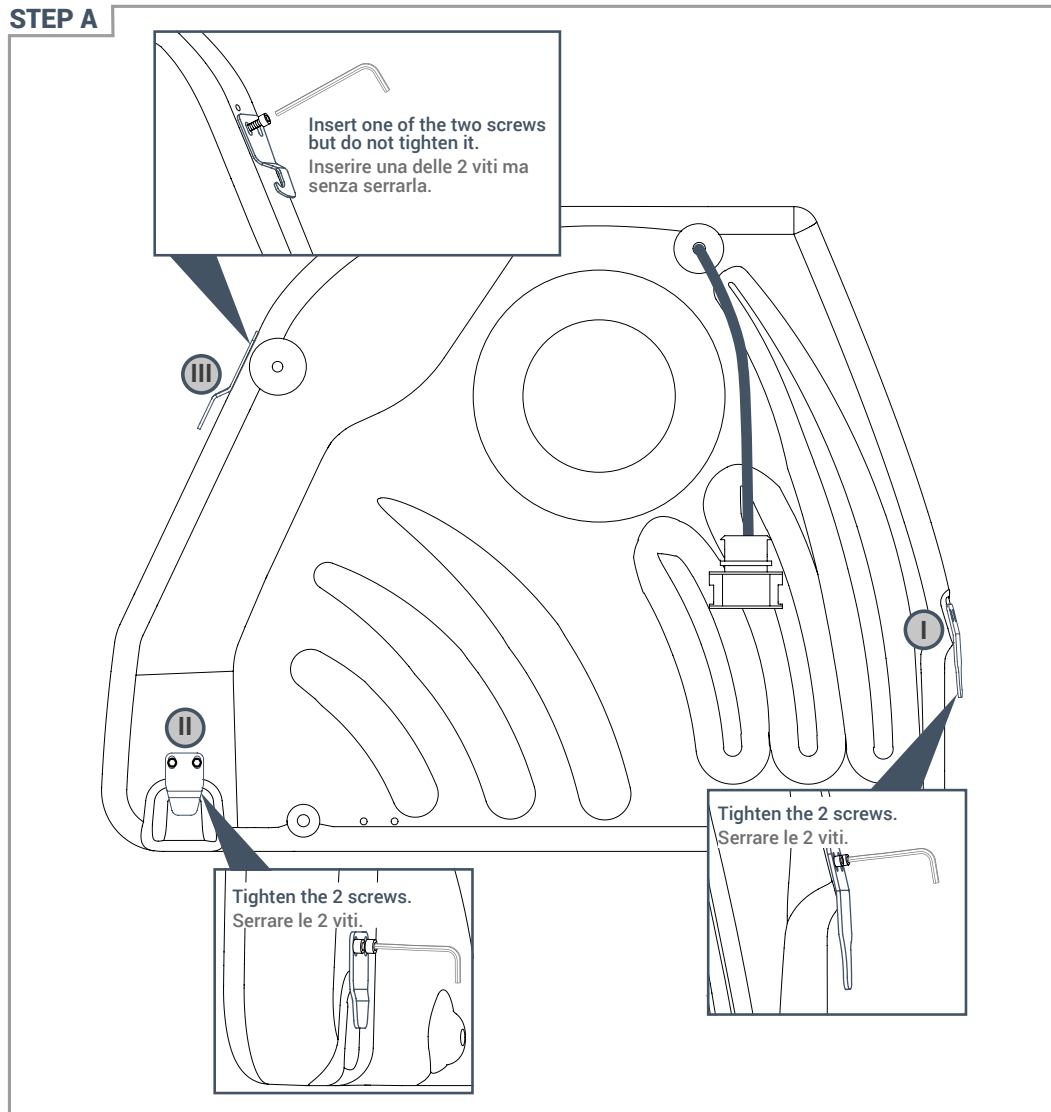

Fig. 21
9.1.1 Assemble the three brackets of the APBX G6 MOUNTING KIT onto the points provided on the box, strictly following the instructions reported in the figure (Fig. 21).